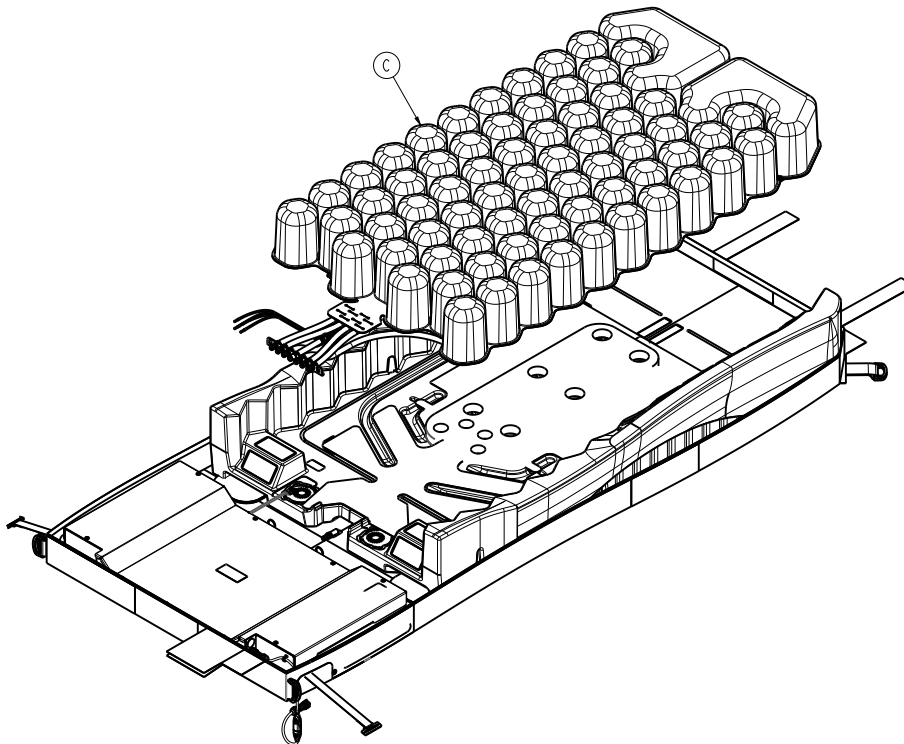

Figure 7 – Pod assembly
10. Reach under the pod assembly (C) from the patient right side near the middle to access the turn bladder. Disconnect the turn bladder quick disconnect. Repeat for the patient left side (Figure 7).